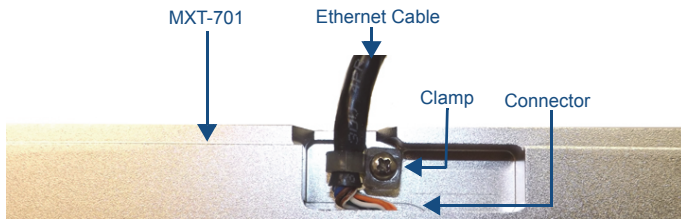

FIG. 4 Bottom of the MXT-701
2. Remove the clamp holding the Ethernet cable (FIG. 4) until the Ethernet cable moves freely.